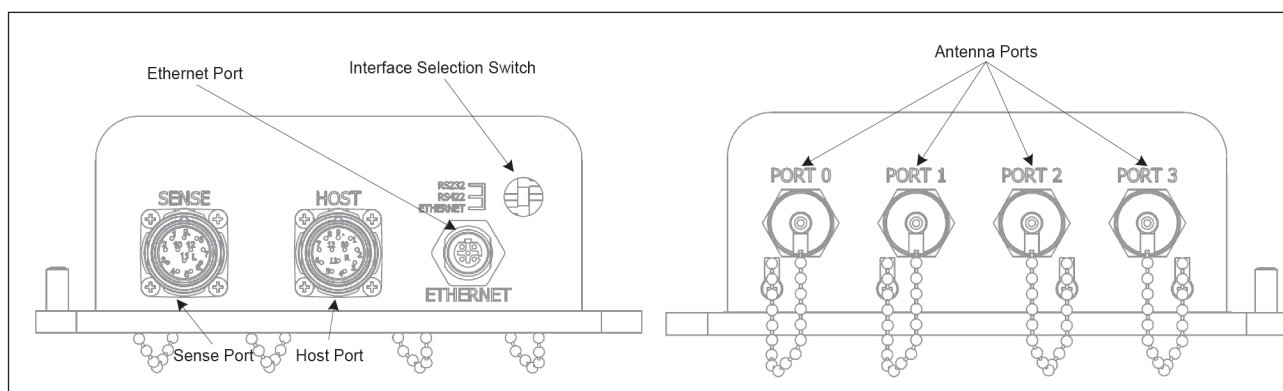

Figure 1 MPRX End Views
The MPRX consists of an input/output (I/O) module, a power supply, a reader logic board (also called a tag decoder), and a radio frequency (RF) transmitter/ receiver (called the RF module) in a compact enclosure. These components are contained in a highly reliable, compact, and easy-to-install package. Figure 1 shows the four port version of the MPRX. The host connector, sense connector, Ethernet connector, and interface selection switch are on the opposite end of the MPRX from the four antenna port locations.